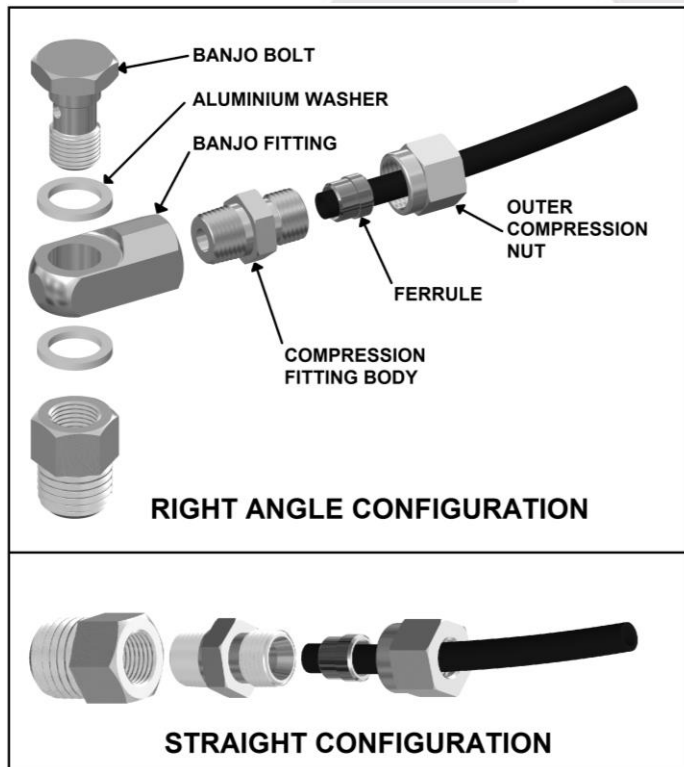

Figure 17.
- Assemble an aluminium washer onto the banjo bolt and insert through the banjo fitting. Assemble second aluminium washer and tighten into bulkhead fitting using a 14mm [9/16"] spanner. (Fig.17.)
NOTE : When right angle routing of the tube is not required, screw the compression fitting body straight into the bulkhead fitting body (Fig.17.).